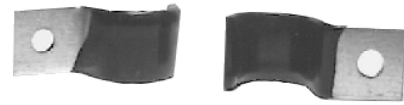

Figure 3: Cable Clamps
Step 4. Secure the cables by using the provided cable clamps. (See figure 3)